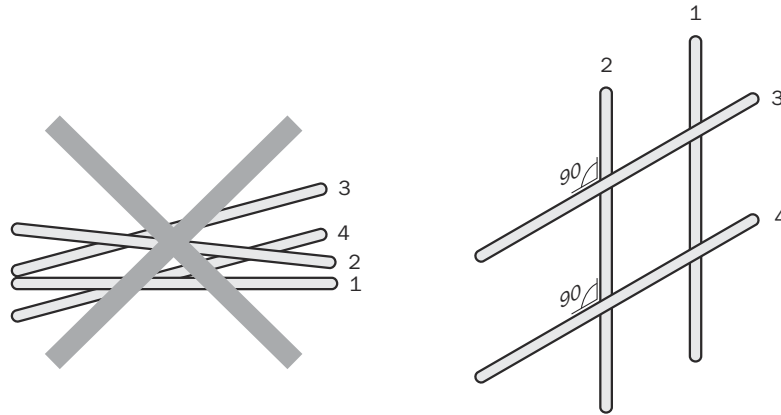

Figure 19: Cross cables at right angles
- ▶ Cables in groups 1, 2 and 3, 4 must be crossed at right angles (see figure 19).